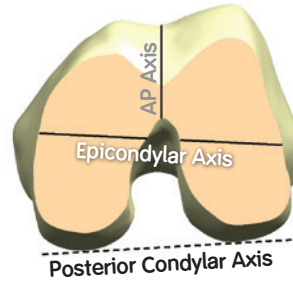

Figure 21
- Optional: Mark the A/P and epicondylar axis on the femur (Figure 21).